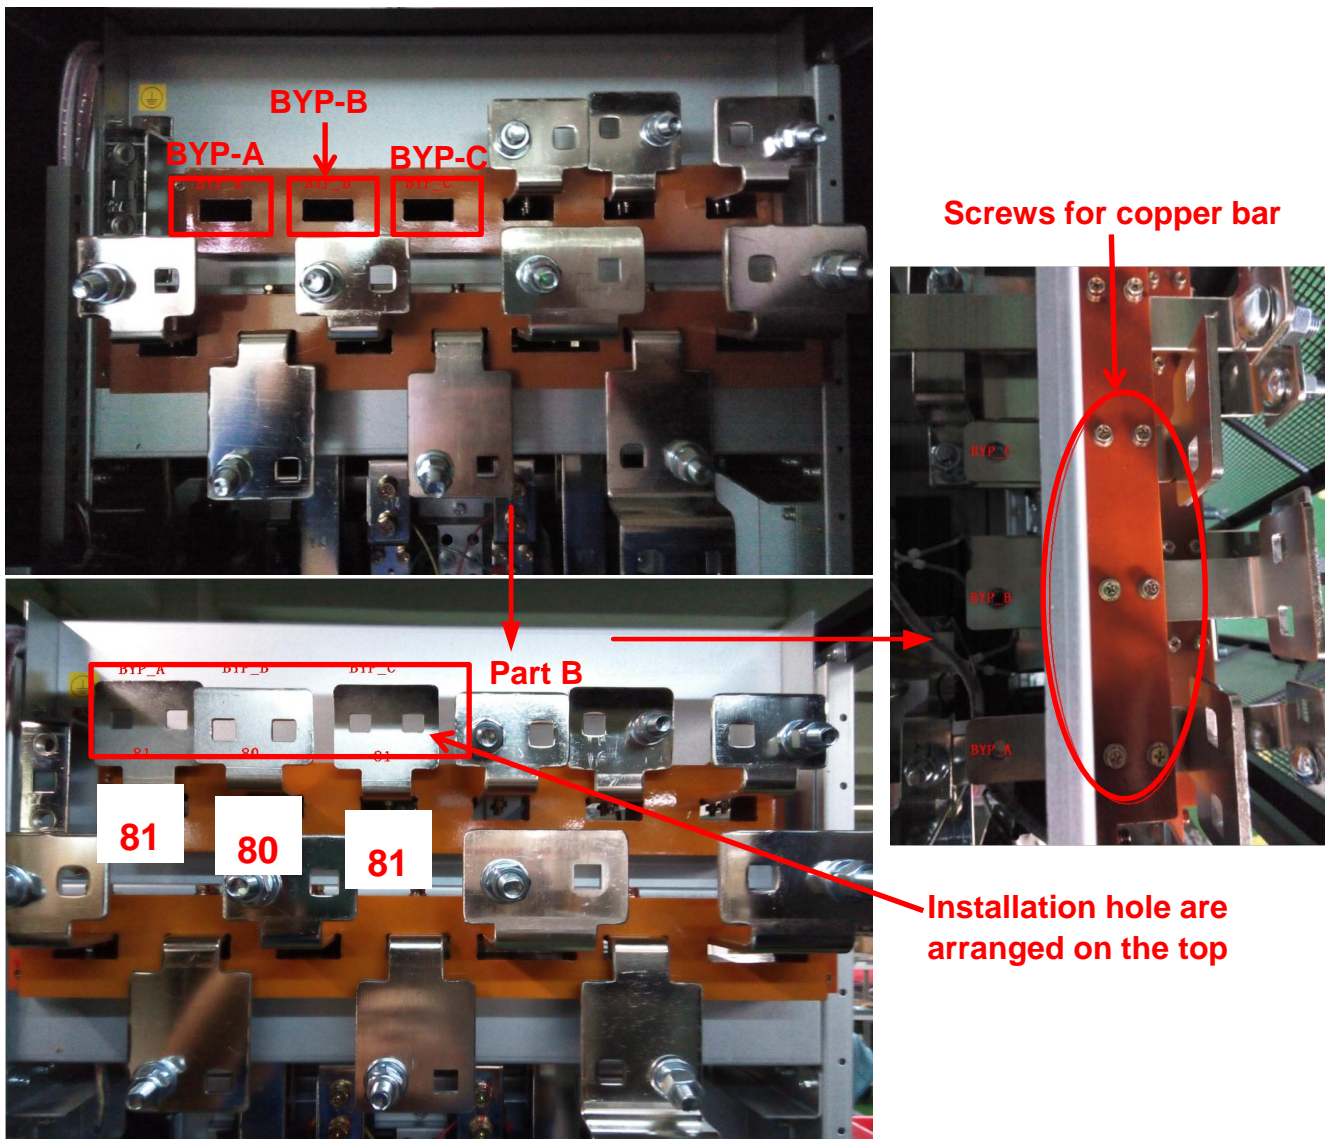

Figure 1 Bypass input installation
2. Install the bypass input copper bar with screws, as is shown in figure 1.
- Please ensure the copper bar label for the BYP (Bypass) phase B is 80, the length of bar is different, as is shown in figure 1(Part B).
- Please ensure the copper bar with right orientation, as is shown in figure 1(Part B).